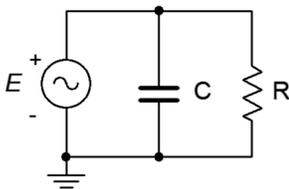

Figure 7.6
6. For the circuit shown in Figure 7.6, determine apparent power  $S$ , real power  $P$ , reactive power  $Q$  and power factor  $PF$ . Also, draw the power triangle. The source is 240 volts,  $X_C = -j200 \Omega$ ,  $R = 75 \Omega$ .